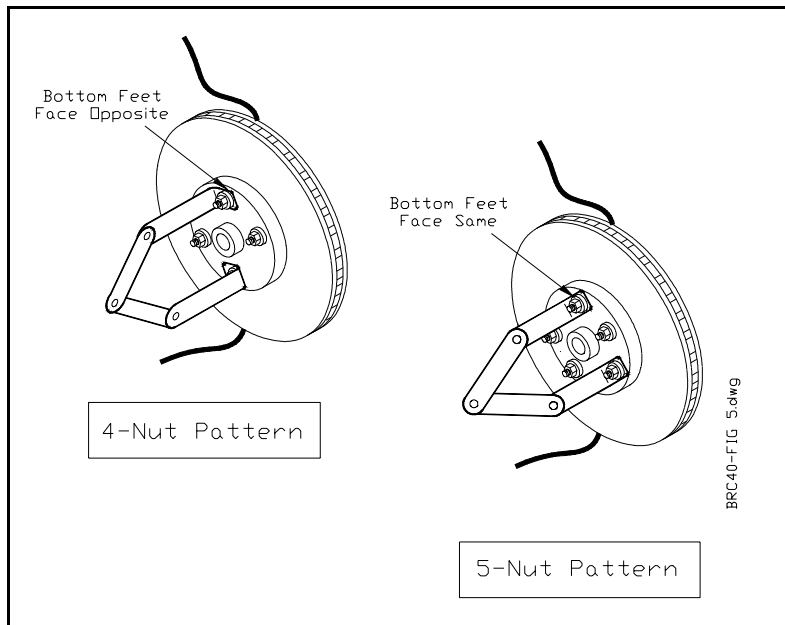

Figure 6 Mounting the Wheel Drive Brackets
1. Tighten Wheel Nuts on all but two studs. Attach the Wheel Drive Brackets, with Spacers, to the two vacant wheel studs as shown in Figure 6. Leave the two wheel nuts slightly loose.